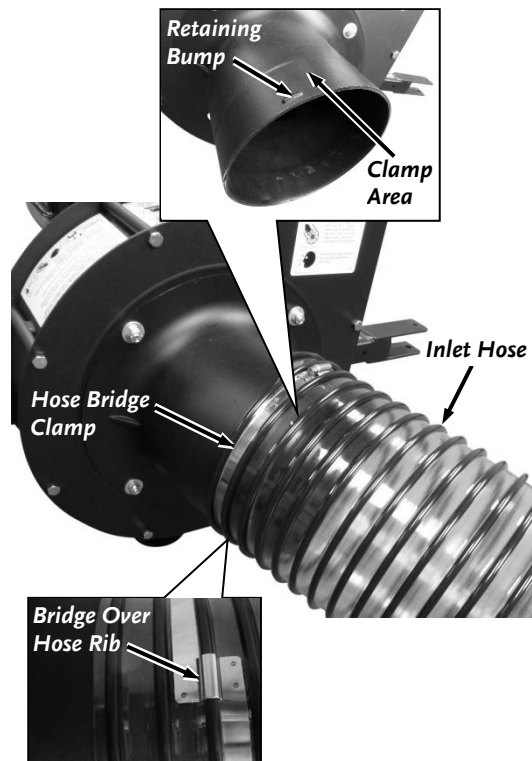

Figure 19
7. Using a Flat Head Screwdriver or 7mm Wrench, loosen the Hose Bridge Clamp on the end of the Hose. Slide the Hose onto the Housing neck and tighten the Hose Bridge Clamp (**Figure 19**).